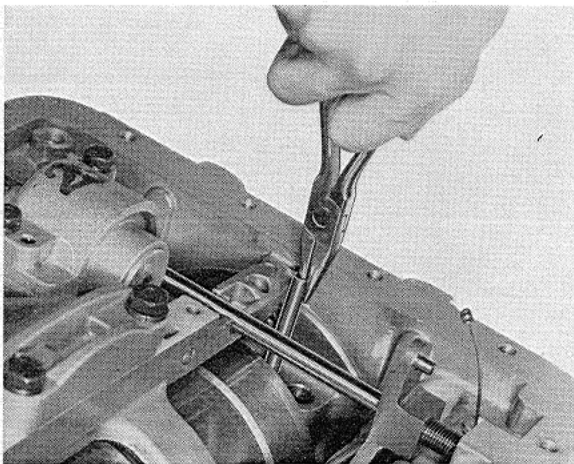

Fig. 44. Removing converter inlet and outlet tubes using needle-nose pliers
20. Remove the oil tubes in the housing, In case of difficulty pull them out with needle-nose pliers as shown in Fig. 44.